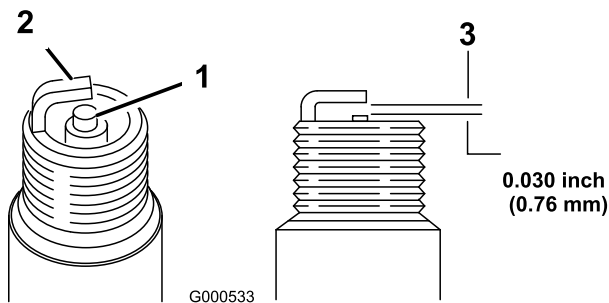

Figure 26
- 11. Set the gap on the plug to 0.030 inch (0.76 mm) (Figure 26).